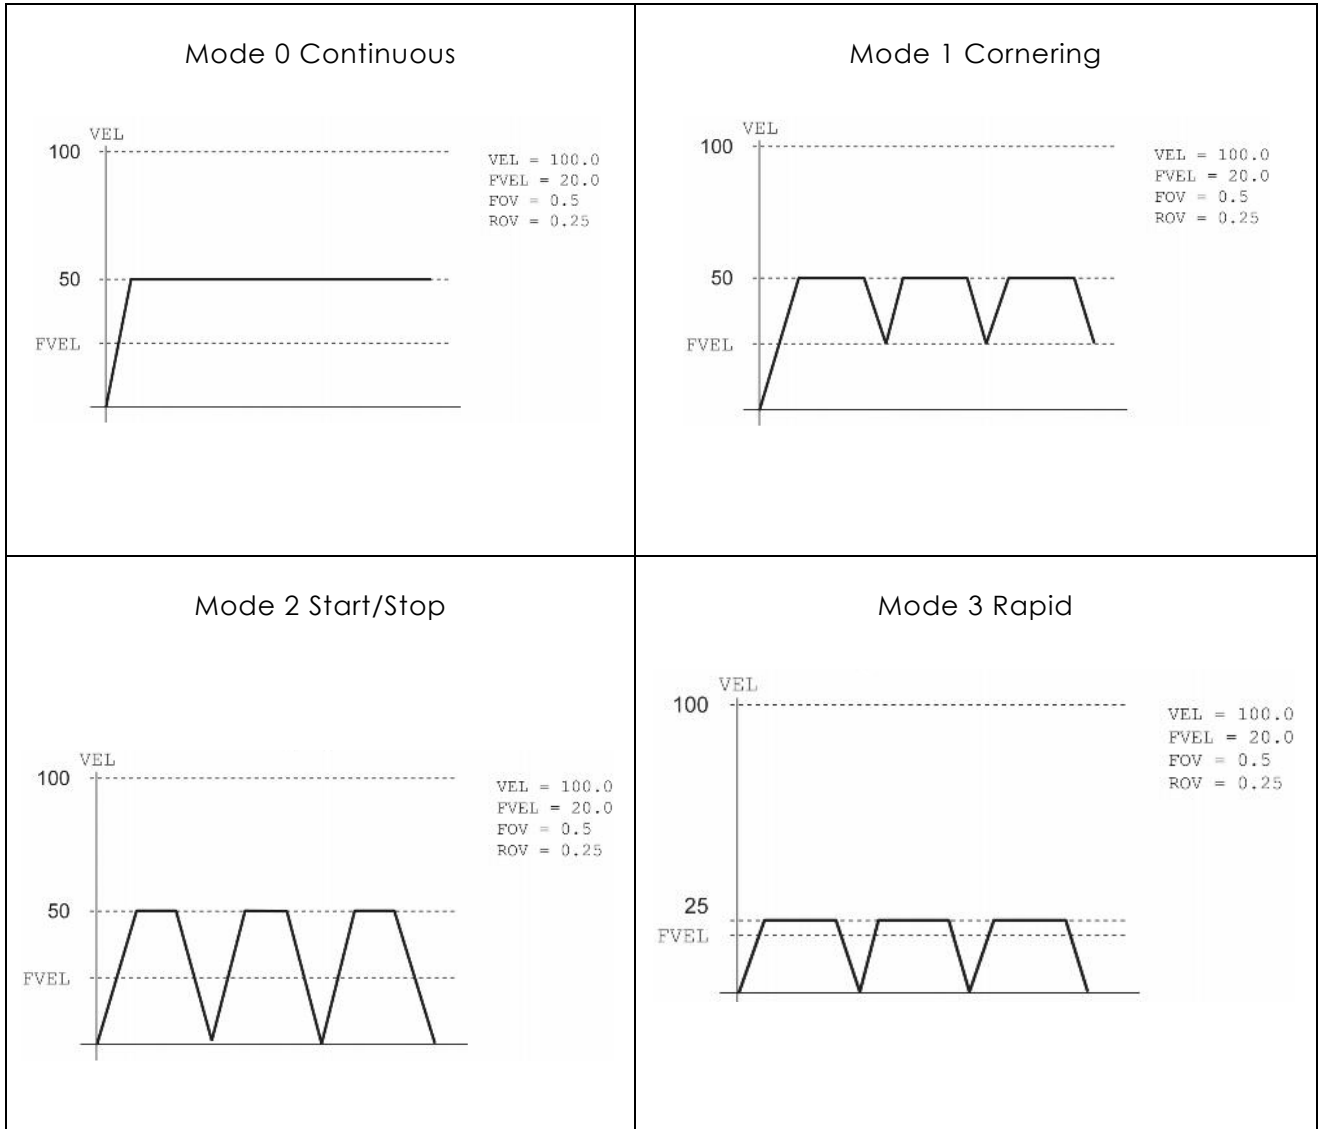

Figure 5: *nMoveMode* Move Modes
- Figure 5 , which follows, shows the four move modes.